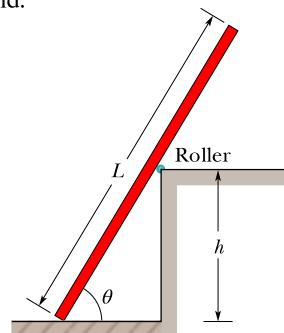

Figure 12.37 Problem 37.
- 37 M GO** In Fig. 12.37, a uniform plank, with a length  $L$  of  $6.10 \text{ m}$  and a weight of  $445 \text{ N}$ , rests on the ground and against a frictionless roller at the top of a wall of height  $h = 3.05 \text{ m}$ . The plank remains in equilibrium for any value of  $\theta \geq 70^\circ$  but slips if  $\theta < 70^\circ$ . Find the coefficient of static friction between the plank and the ground.